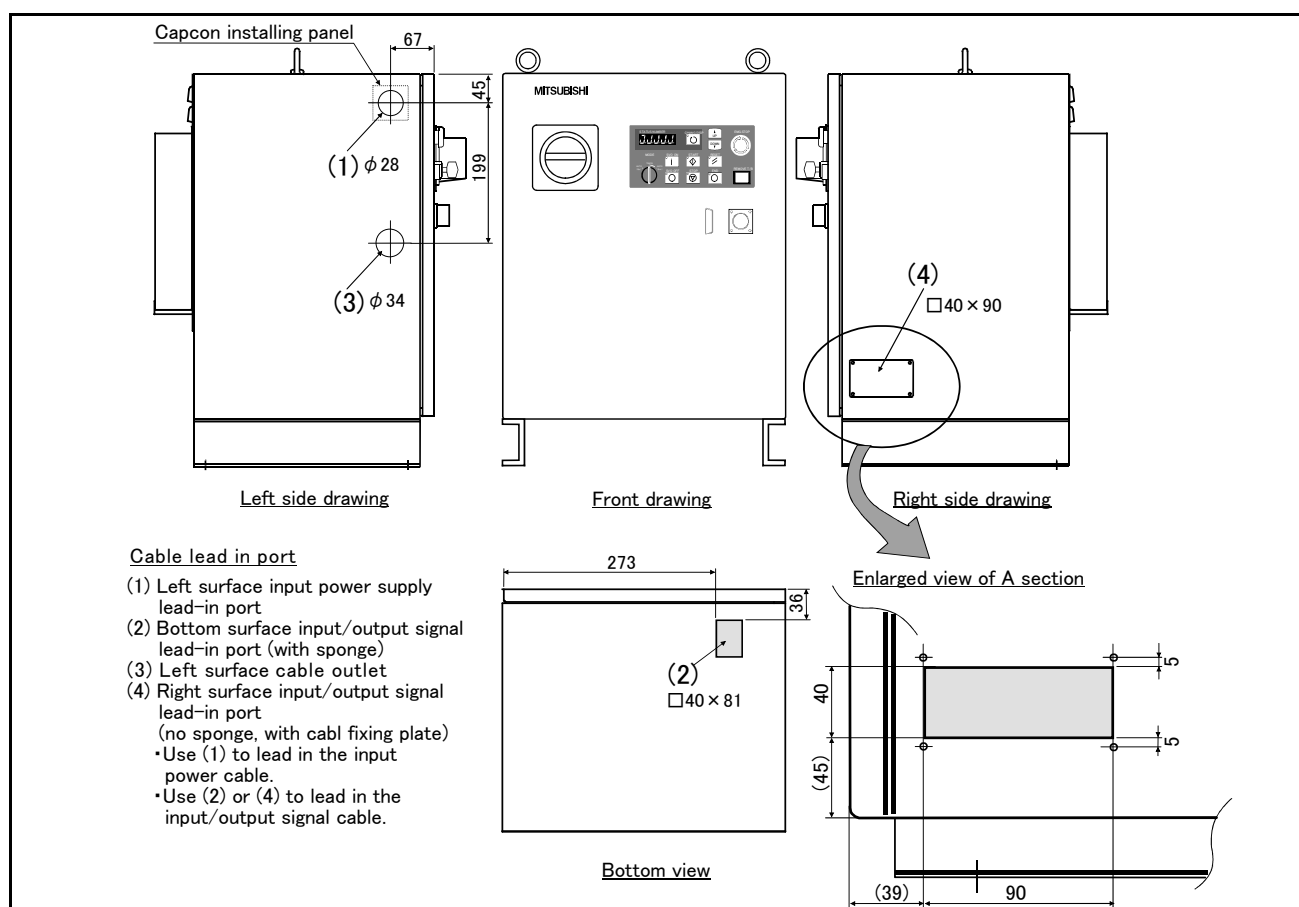

Fig.3-13 : Cable lead-in ports and dimensions (CR3-535M controller)
The controller has the openings (1) to (4) as shown in Fig. 3-13.